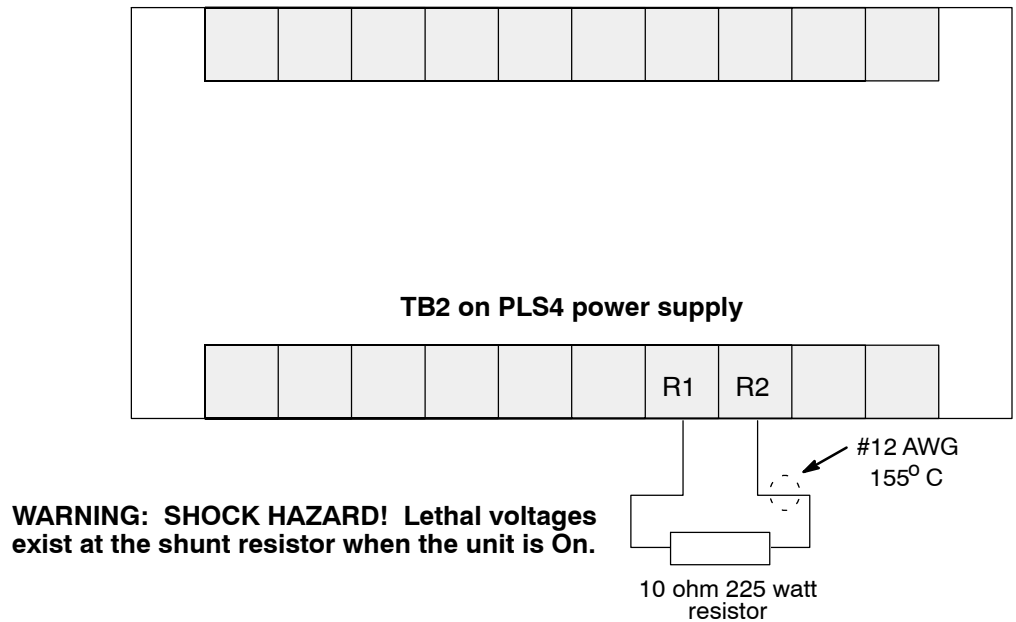

Figure 29 Wiring the Shunt Regulator Resistor to Power Supply
2. Connect the resistor leads to R1 and R2 on the power supply. See Figure 29.